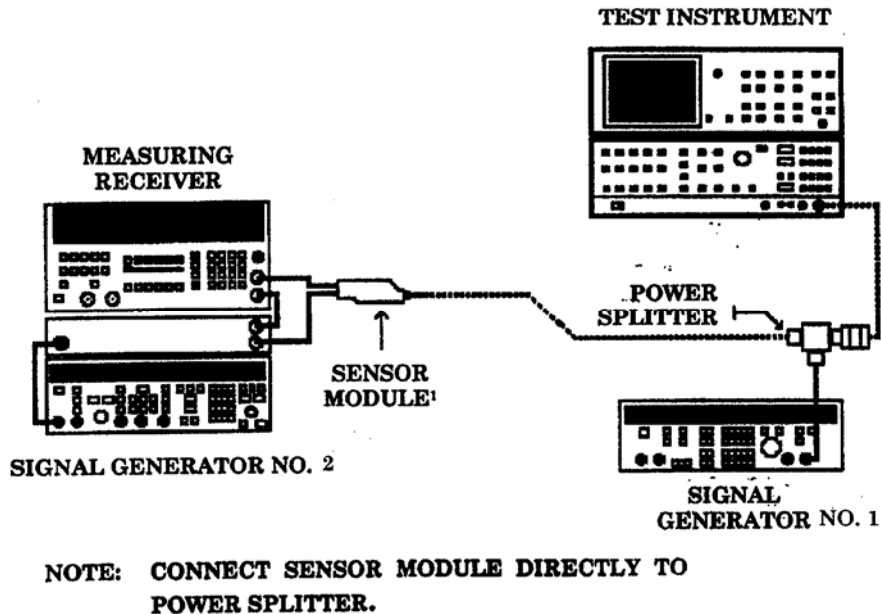

Figure 27. Frequency response connection 1.
- (27) Disconnect TI **RF INPUT** from synthesizer/level generator **50** **OUTPUT**.
- (28) Connect sensor module, 11792A, to measuring receiver **CALIBRATION RF POWER OUTPUT**.
- (29) Zero and cal the sensor module.
- (30) Connect equipment as shown in fig. 27.